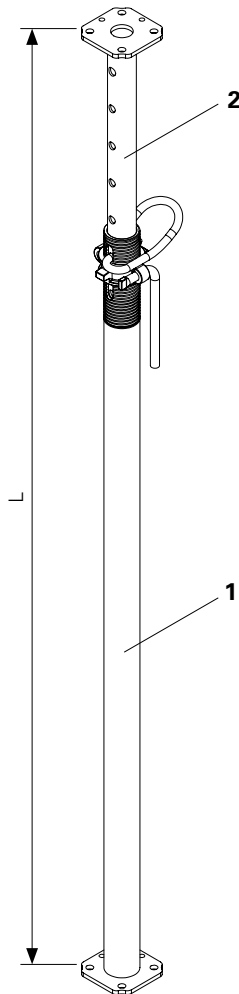

Fig. A1.01
1. Adjust the inner tube (2) of the slab prop to the required height. (Fig. A1.01/A1.01a/A1.02)
2. Turn the inner tube so that the hole in the elongated hole (1b) of the outer tube (1) is visible. (Fig. A1.01 + A1.01a)